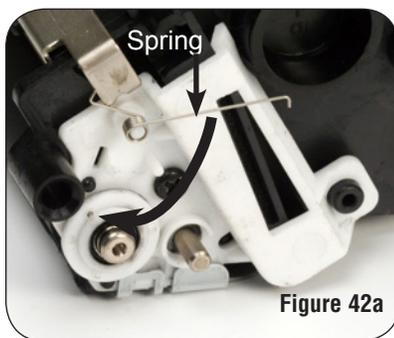
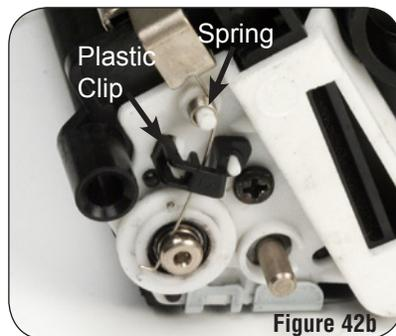

Figure 42a
Figure 42b
7. Install the developer roller/doctor blade contact spring by rotating the spring arm, as shown in Figure 42a. Also snap in the plastic clip that holds the contact spring in place, as shown in Figure 42b.